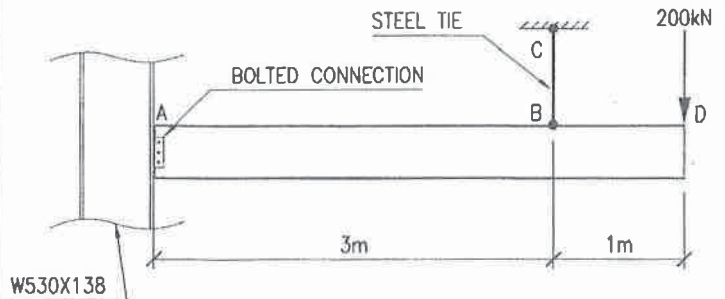

FIGURE A3
- A3. The loaded steel beam ABD shown in Figure A3 is supported at A by a bolted shear connection to the column W530 x 138 and at B by a steel tie BC.